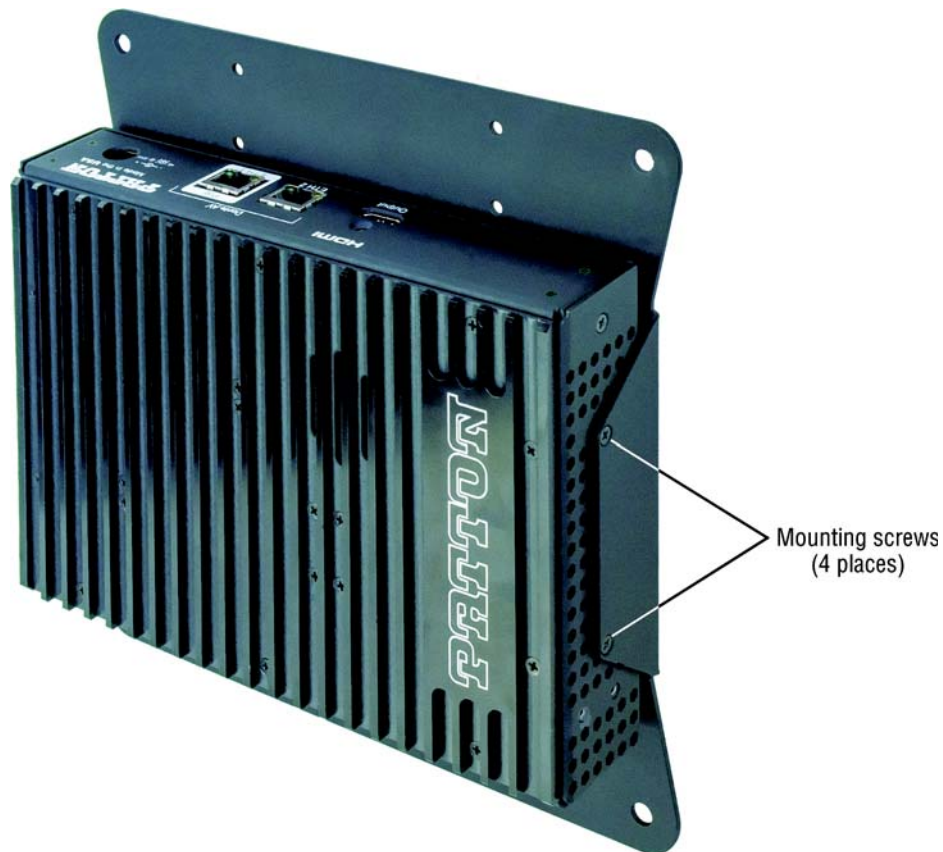

Figure 9. FPX6000 installed in VESA mounting bracket
7. Place the FPX6000 in the bracket as shown in figure 9 on page 23.
8. Use the 4 mounting screws included with the bracket to secure the FPX6000 in the bracket (see figure 9 on page 23).
3. Place the FPX6000 in the bracket as shown in figure 9 on page 23.
4. Use the 4 mounting screws included with the bracket to secure the FPX6000 in the bracket (see figure 9 on page 23).